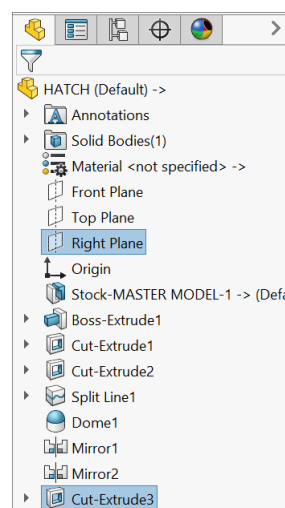

Fig. 50
Step 1. Ctrl click **Right Plane**  and **Cut-Extrude3**  feature to select plane and feature, **Fig. 50**.